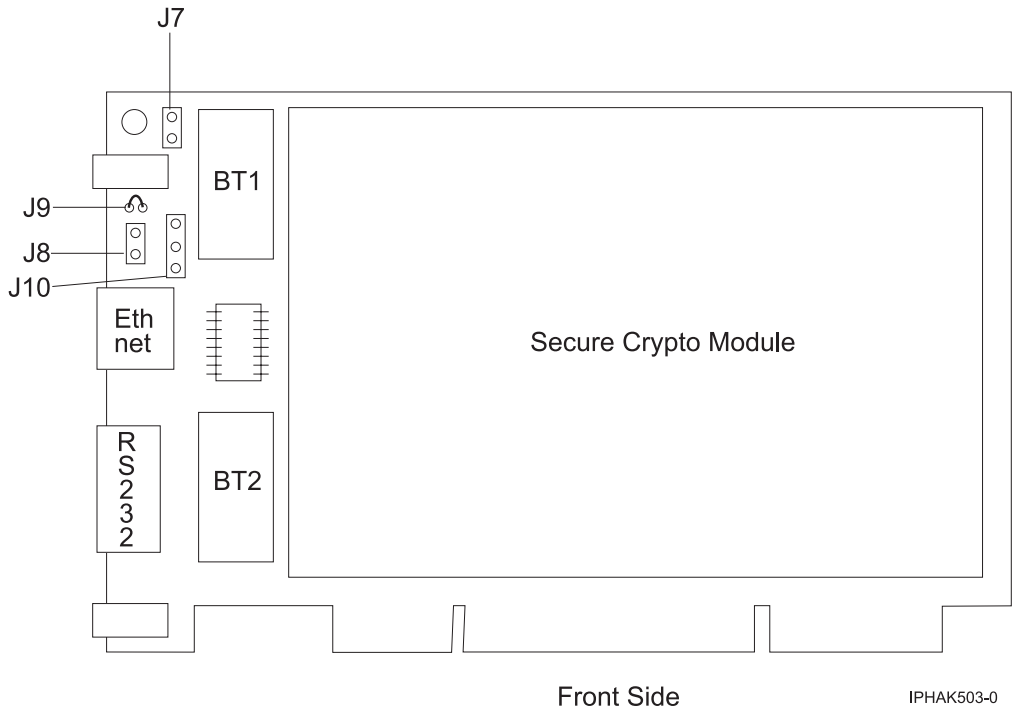

Figure 47. Front side of the adapter
6. Insert one of the new batteries into the battery tray provided with the kit. Align the + on the battery with the + on the battery tray (the end with the red wire). Connect the tray wires to the J10 connector located near the RS-232 serial port, as shown in Figure 47 on page 172. The connector is polarized to ensure a correct connection.